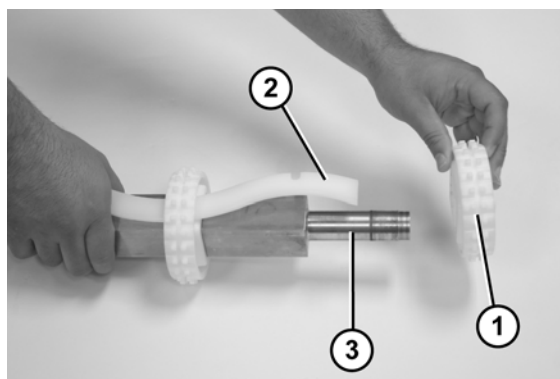

Figure 56
10. Slide the sprockets (**Figure 56, item 1**) and the sprocket alignment bar (**Figure 56, item 2**) off the drive spindle (**Figure 56, item 3**).